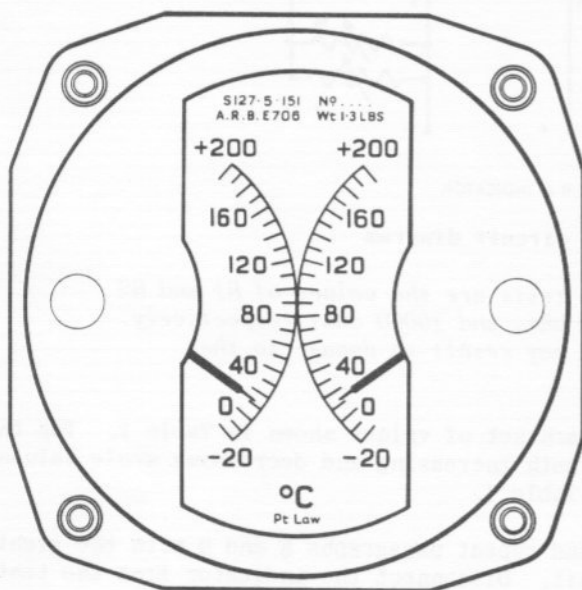

Fig.1 Indicator, Type S127.5.151
1. The indicator, Type S127.5.151 (fig.1) is calibrated in deg.C from -20 to 200 on each of the two scales.